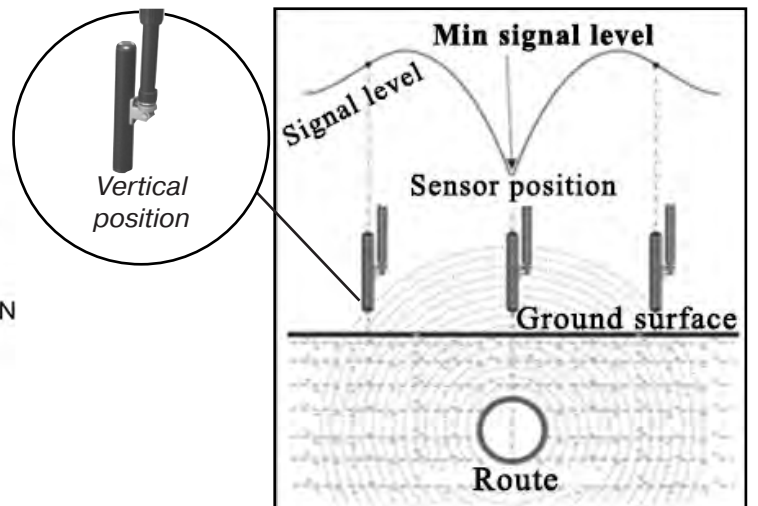

Fig. 5.4
2) return conductor – cable armature (Fig. 5.4)